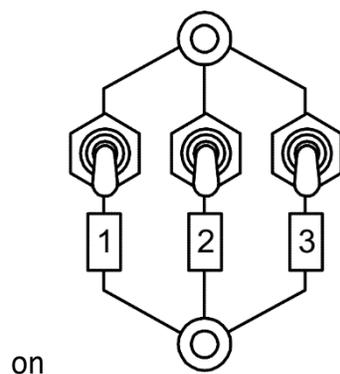

FIGURE 1.10
- Step 2: Position the three toggle switches down for an off state and using your hand Ohmmeter check that there is infinite resistance of each one of the resistance in the section shown in Figure 1.10 (all three are internally connected in parallel when S is on).